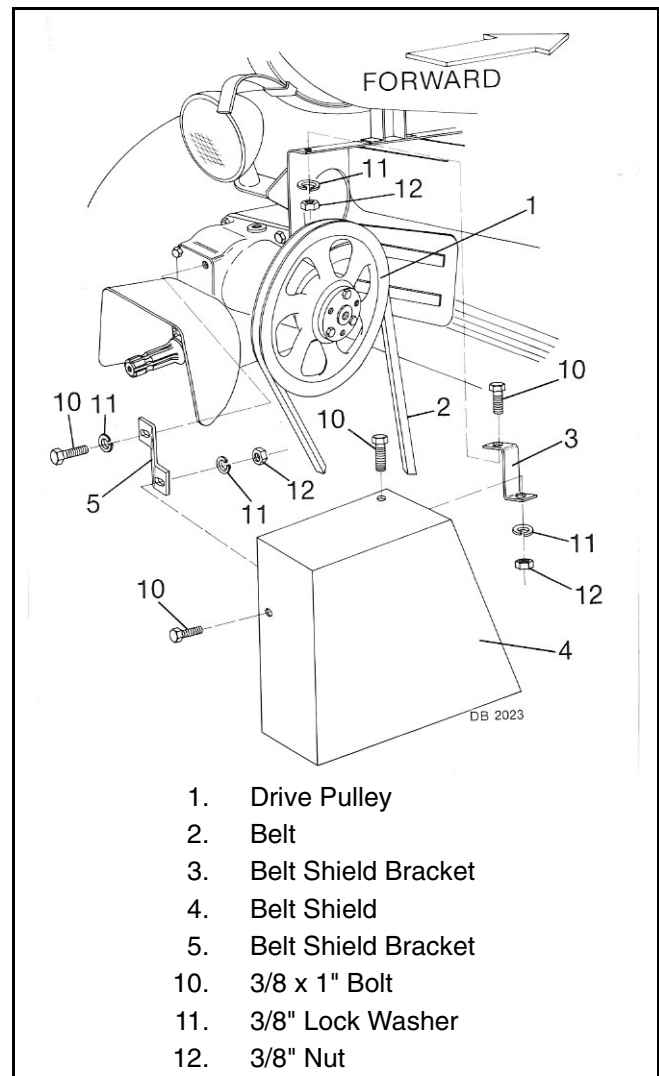

Figure 16. Drive Pulley Installation
Install belt shield bracket (5) to PTO housing as shown in Figure 16 with bolt (10) and lock washer (11). Install belt shield bracket (3) to tractor bracket as shown with bolt (10), lock washer (11), and nut (12).